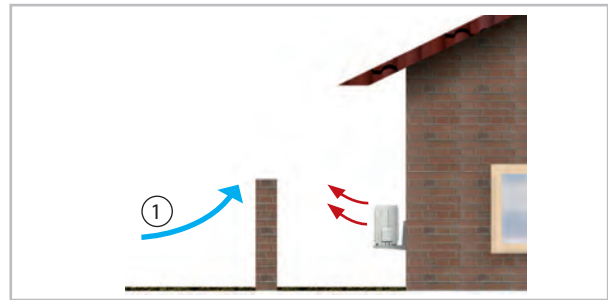
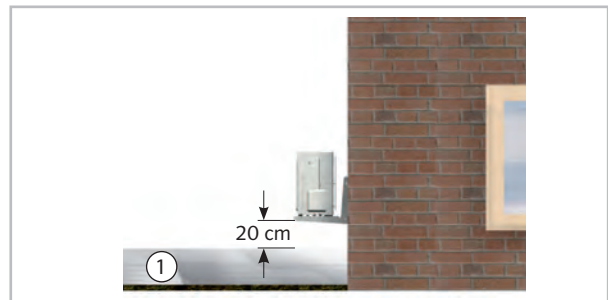

Fig. 31: Protection from wind
Fig. 32: Protection from snow
- If the outdoor unit is erected in an area of strong winds, then the device must be protected against them (Fig. 31). The snow line is to be observed during installation (Fig. 32).
- During installation, add about 20 cm to the expected snow depth to guarantee unimpeded intake and exhaust of outdoor air year round (Fig. 32).